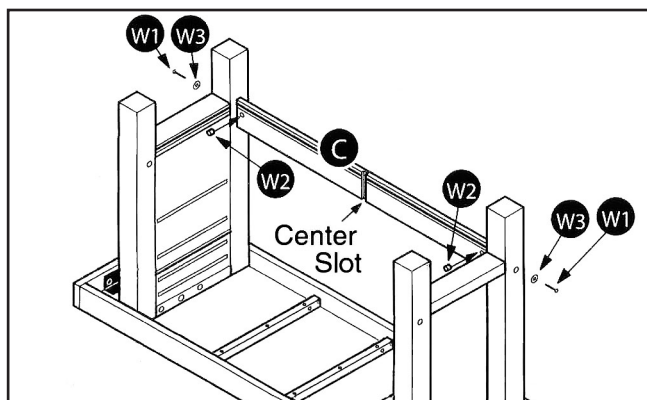

Figure 4. Back board installation.
- Insert two (W2) barrel nuts into the back cross brace "C", so the barrel nuts slots are horizontal and showing on the same side as the back board center slot (**Figure 4**).
- Using the 5mm hex wrench, secure the brace and legs together with two (W1) barrel bolts and two (W3) washers (**Figure 4**). Do not fully tighten the bolts at this time.